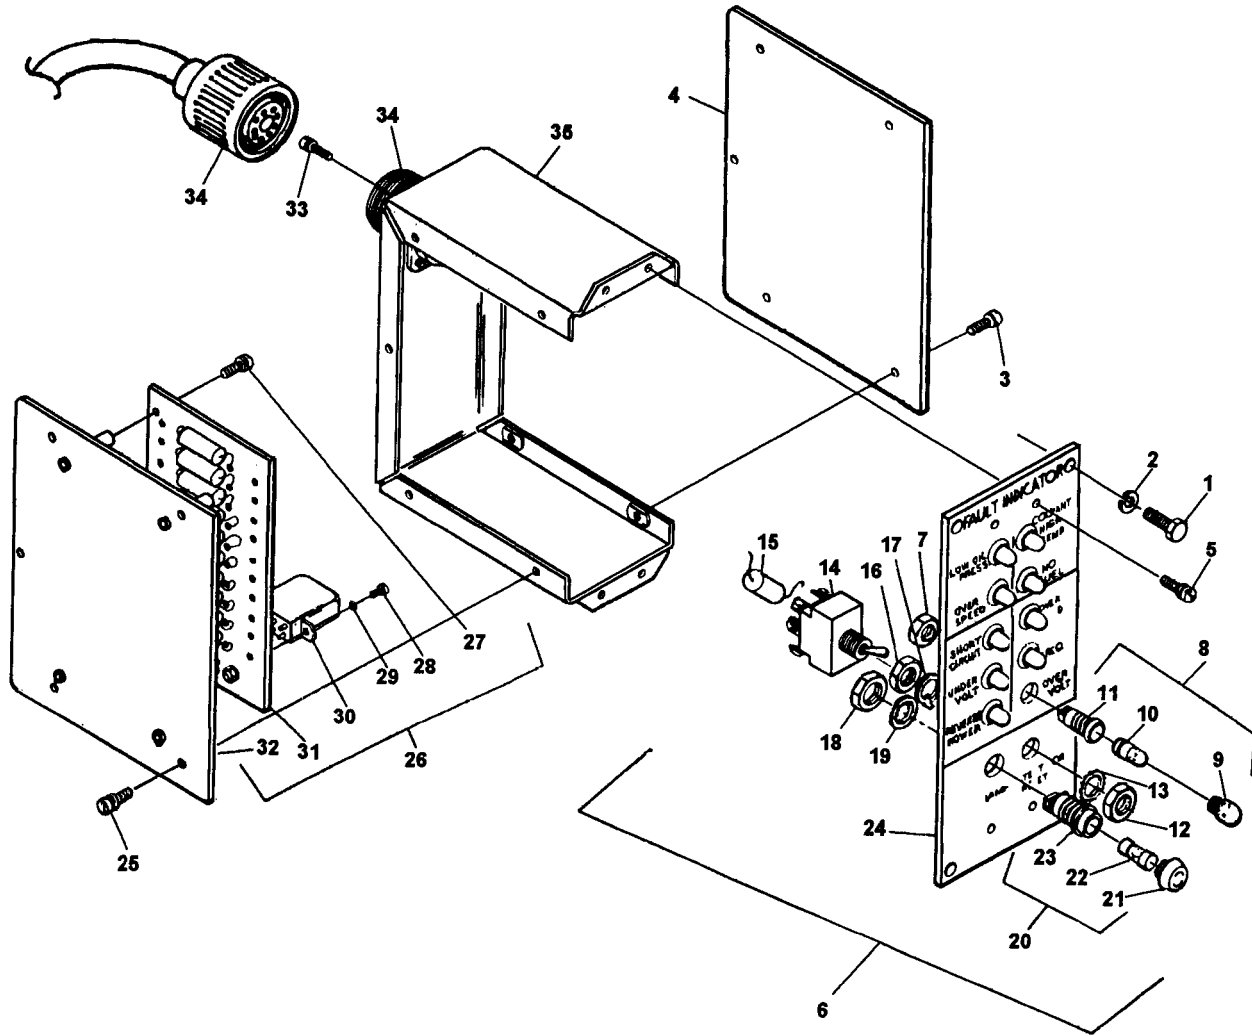

Figure 4-41. Fault Locating Indicator, Exploded View (Sheet 1 of 2)
- (1) Install fault locating indicator to generator set with lockwashers (2 , Figure 4-41) and screws (1).
- (2) Connect wiring harness to back of fault locating indicator.